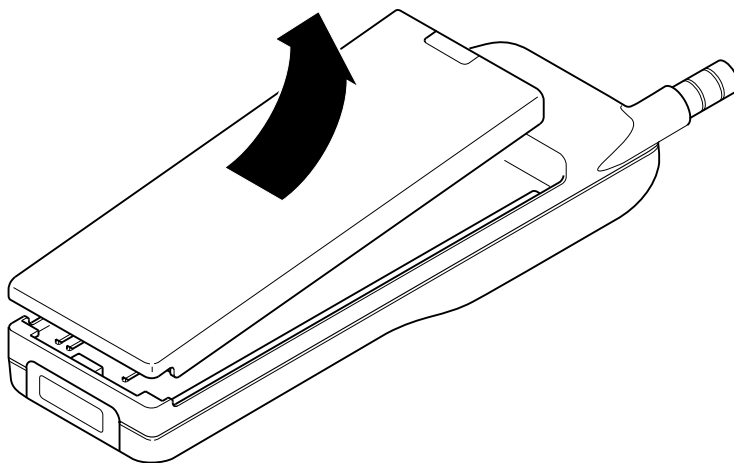

Figure 1: Battery removal
1. (Figure 1) Press the release clip, then tilt upwards to remove the battery from the telephone.